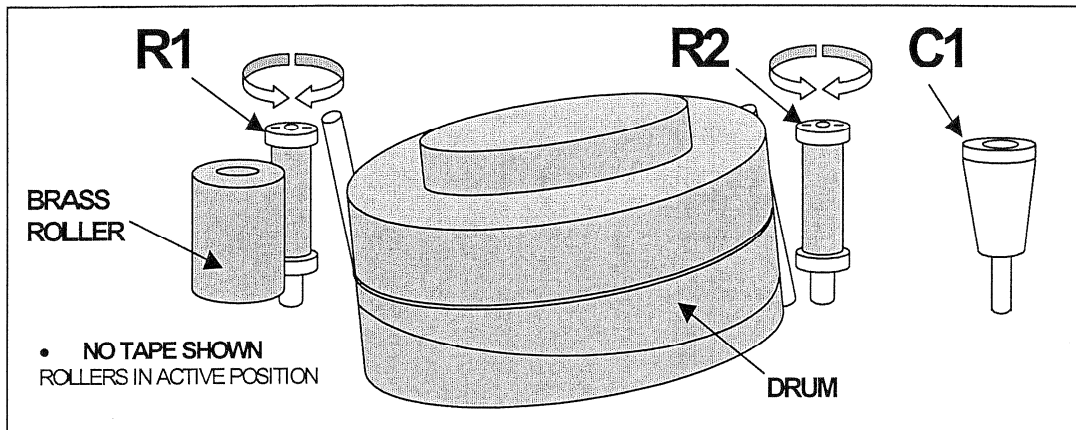

Figure 5 - Tape Travel Rollers R1, R2 and C1
- ✓ Visually check that the Alignment Tape is aligned on the helical groove of the lower drum correctly. If not, adjust the R1 and/or R2 rollers (see Figure 5) until the tape is aligned along the helical groove.